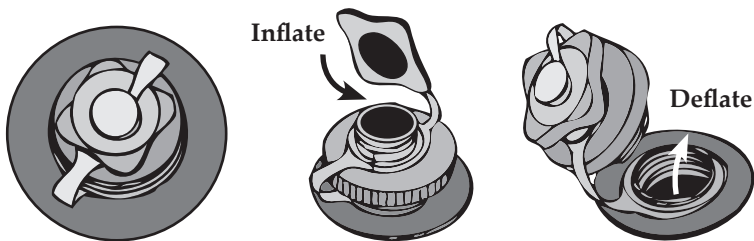

Figure 2. Inflate/Deflate Boston Valve
3. Locate chamber 3 “floor.” Make sure valve is screwed in tightly. Remove small cap (*See Figure 2*) and use appropriate pump nozzle. Inflate chambers until firm (1.0 psi **ONLY**). **Do not over inflate!**
3. Unscrew valve body to chamber 3 (See Figure 2).